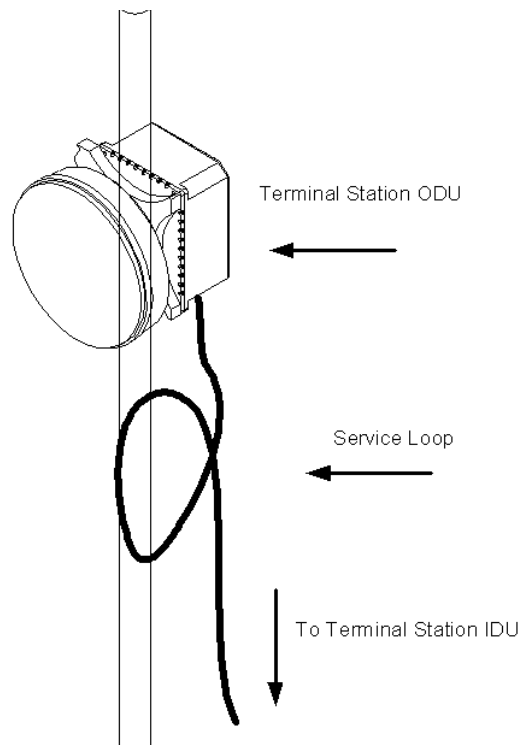

Figure 9-22: TS 28 GHz-ODU Service Loop
Figure 9-22 shows the TS 28 GHz ODU connections. Table 9-4 describes the connections.
To connect the ground/earth cable (See Figure 9-22):
- Referring to Figure 9-22, connect a single coaxial cable is between the ODU and the TS IDU IF connector. For a cable length greater than 150m, use a higher quality cable than the LMR400, since the total cable attenuation must not exceed 20dB regardless of its length.